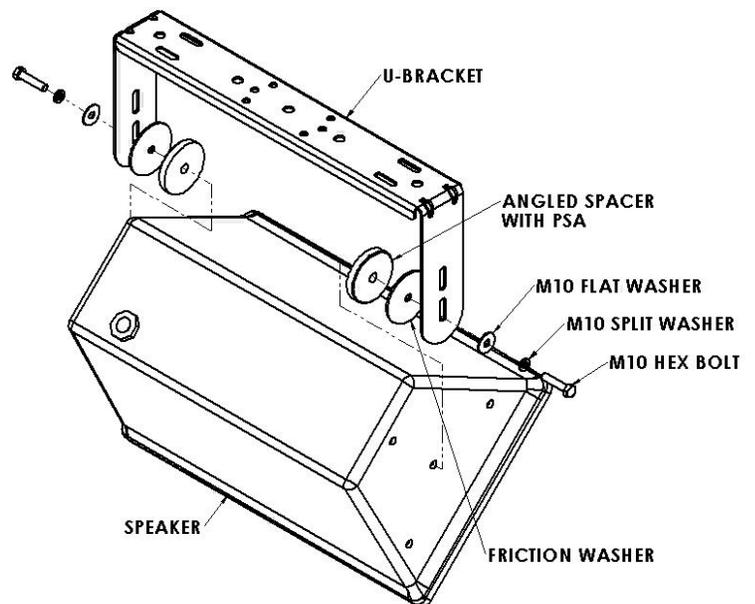

Figure 1
Step 2: Peel off the paper and stick the Angled spacer to the center mounting holes of the speaker cabinet. Make sure the holes are lined up and the speaker's tapered side match the angle on the angled spacer to create a flat surface (Figure 1).
the slots in the arms with the sound isolation gasket in between the angled spacer and the bracket. Thread the bolt into the loudspeaker. Repeat on the other side of the speaker (Figure 1). Do not fully tighten yet.